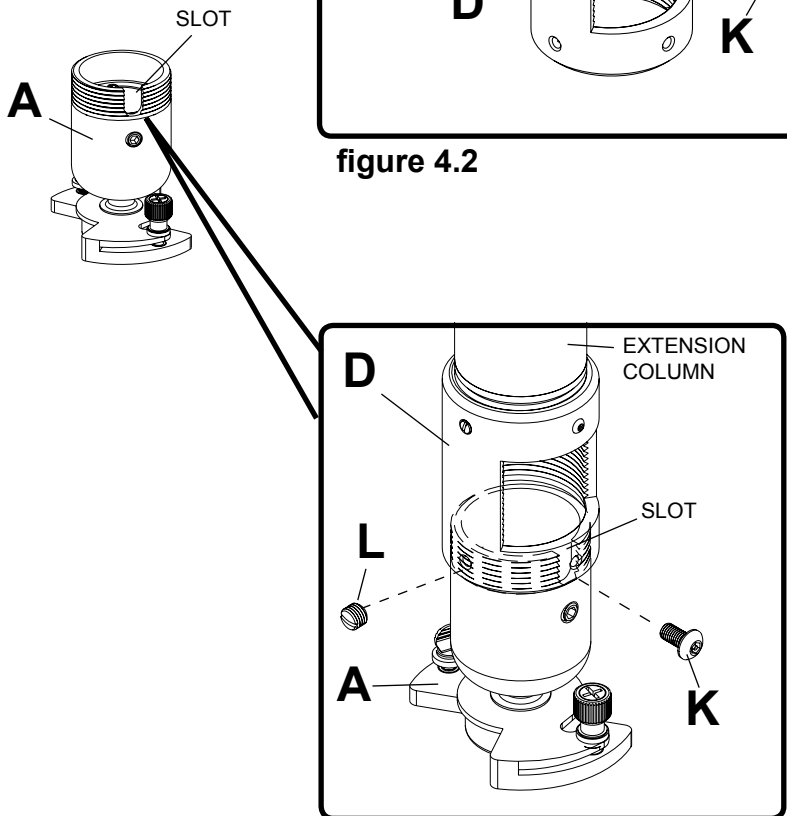

figure 4.3
Screw ball and socket mount (A) to extension column connector (D). Align slot in ball and socket mount (A) to one of the bottom holes in extension column connector (D). Insert and tighten one #10-32 x 3/8" socket pin screw (K) through extension column connector into slot in ball and socket mount (A) using security allen wrench (U). See figure 4.3
**NOTE:** Slotted set screws (L) are used to jam against the threads of each connecting joint to prevent any excess movement. Do not overtighten screws; overtightening screws will damage threads making it difficult to separate the products.